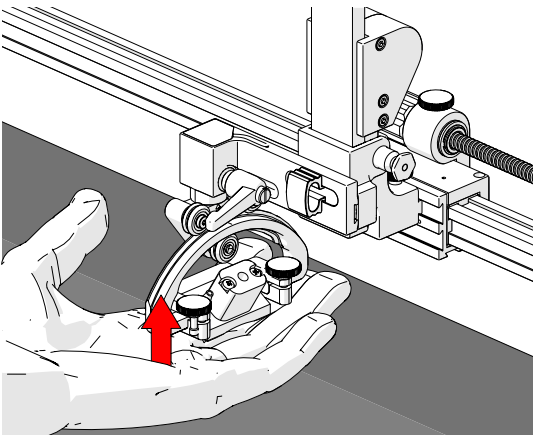

Fig. 210 - Lift probe holder
1. Lift the probe holder slightly to allow the release of the latch pin (*Fig. 210*).
1. Slightly lift the probe holder (Fig. 210).
4. Slightly lift the probe holder (Fig. 210).